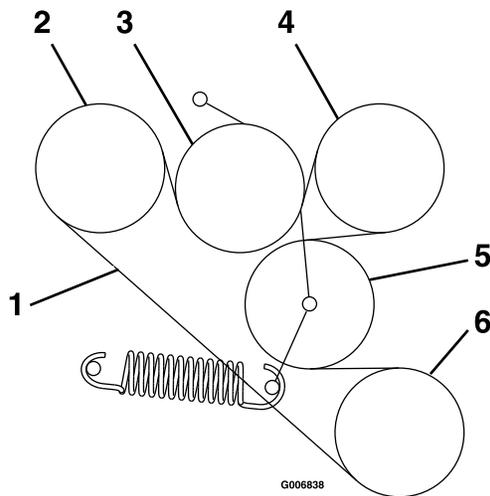

Figure 59
6. Route the new belt onto the sheaves as shown in the decal located on the back of the left drive shield (Figure 59).